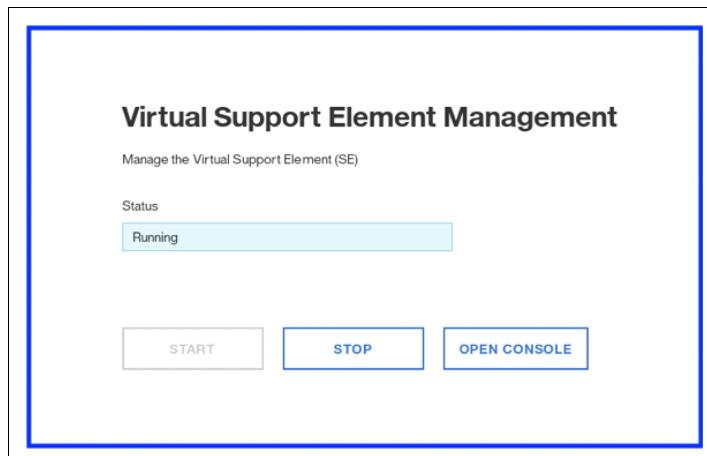

Figure 10-16 Local Virtual Support Element Management
- ▶ The KMM device is intended to be used by the IBM System Service Representative (SSR) only. In case the remote access to the HMC and SE is not possible, the client can use it as an emergency option. The SEs can be local / on-site managed by the Virtual Support Element Management task, as shown in Figure 10-16.